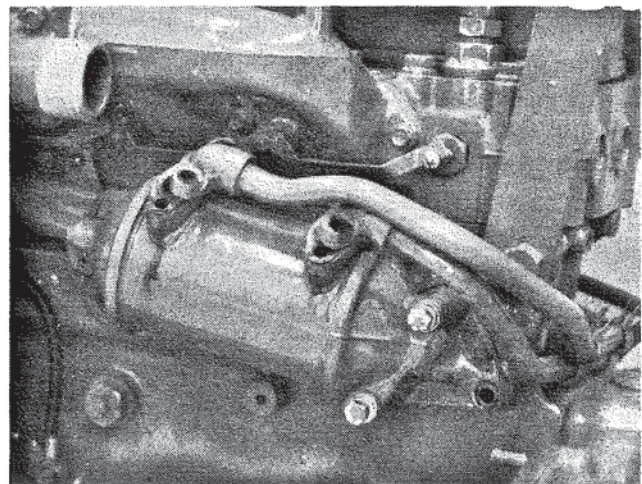

Figure 9. Removing Oil Cooler.
1. Remove capscrews securing oil lines to cooler and three (3) capscrews securing cooler to engine. Figure 9.